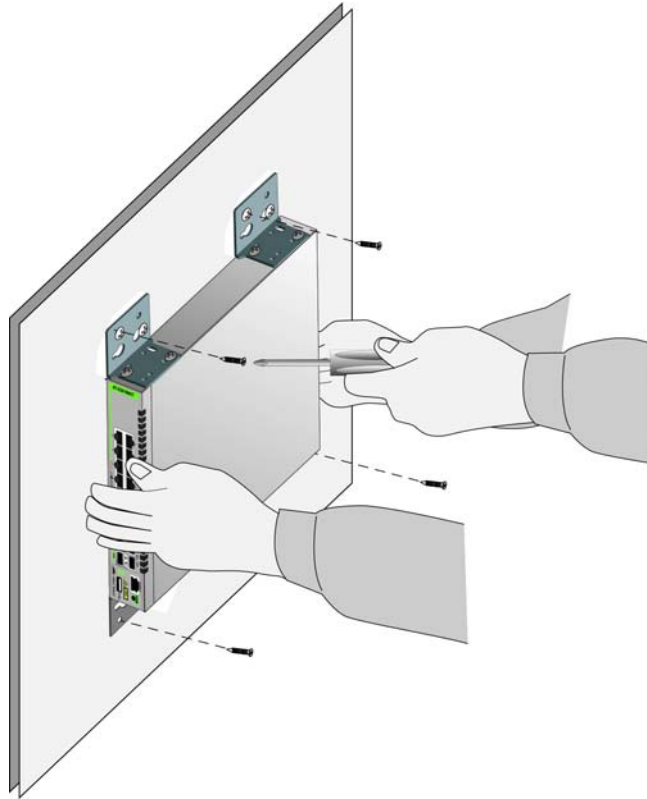

Figure 45. Installing the Switch on a Concrete Wall
7. Have another person hold the switch at the selected wall location while you secure it to the wall with the four M4x32mm screws. Refer to Figure 45 on page 80.